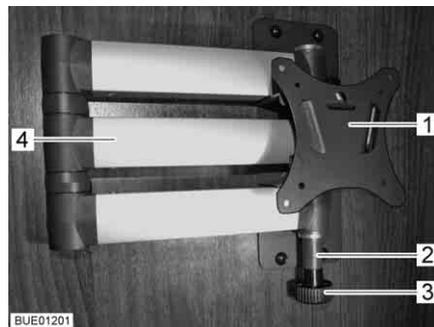

Fig. 72 Holder with jointed arm
- Pull the release knob (Fig. 72,3). The jointed arm (Fig. 72,4) is unlocked.
- Turn the flat screen back into the original position until the holder (Fig. 72,1) engages in the lock (Fig. 72,2).